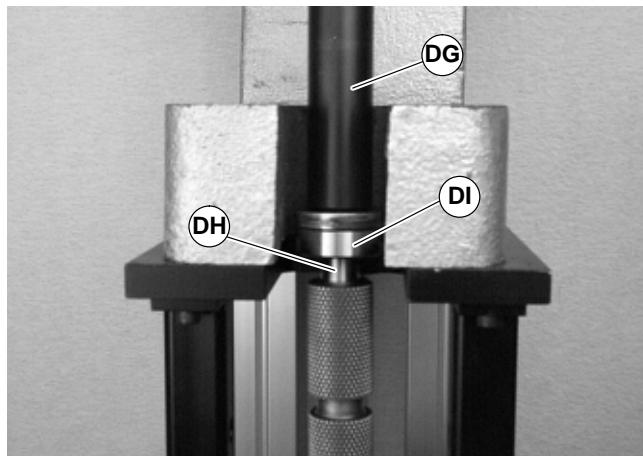

Figure 49
3. Place the shaft of the tool (part number 450282) (DG of Figure 49) over pulley shaft (DH).